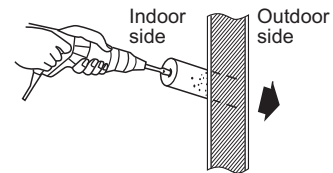

Fig. 1-45
- (8) If the tubing and wiring are to go towards the rear of the unit, make holes in the wall. (Fig. 1-45)